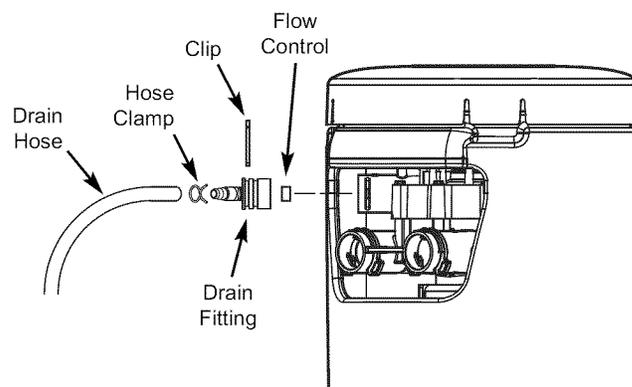

Figure 22
1. Remove the clip holding the drain fitting into the valve (See Figure 22).